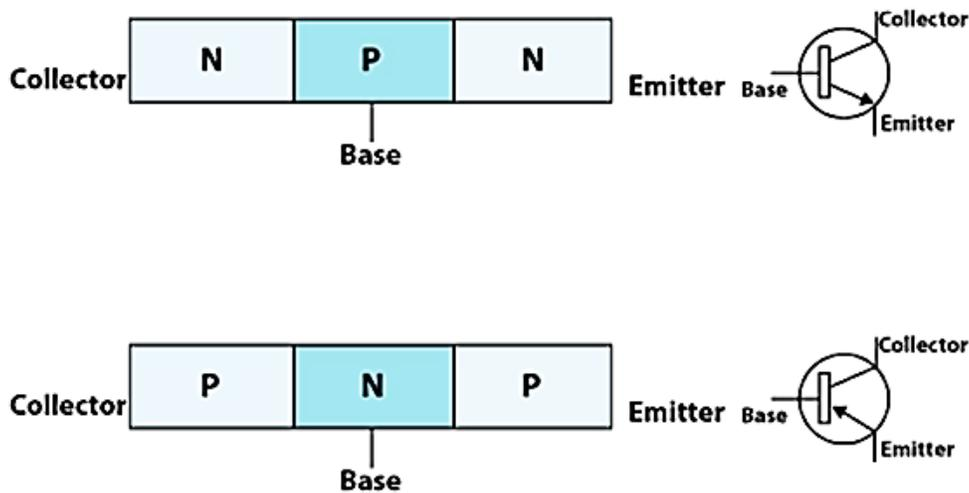

Figure 10.13: PNP and NPN Transistors
- 10-77 Note the symbols for the kinds of transistors shown in Figure 10.13 on the next page. In the symbol for the *pnp* transistor, the arrowhead on the emitter points toward the base. In the symbol for the *npn* transistor, the arrowhead points away from the base.